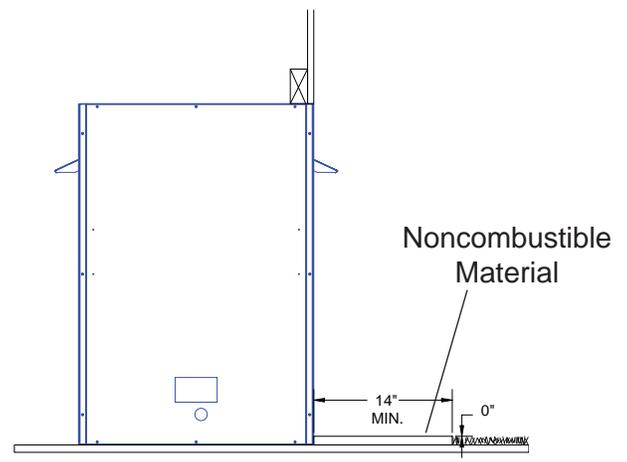

Figure 8 - Floor Clearance above Noncombustible Flooring Material
- Floor clearance** — This firebox hearth opening (inter-chamber floor) must be installed at least 1/2" above any combustible flooring material or, the firebox hearth may be installed flush with the floor if noncombustible material such as slate or marble is installed between the base of the firebox and the combustible flooring. The firebox may be installed directly on a combustible floor or raised on a platform of an appropriate height. Do not place firebox on carpeting, vinyl, or other soft floor coverings. It may, however, be placed on a flat wood, plywood, particle board, or other hard surfaces. Be sure firebox rests on a solid continuous floor or platform with appropriate framing for support so that no cold air can enter room from under the firebox. Refer to Figure 8.